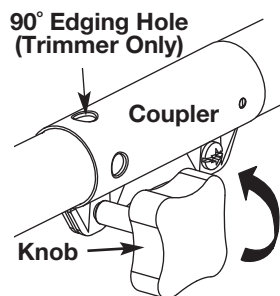
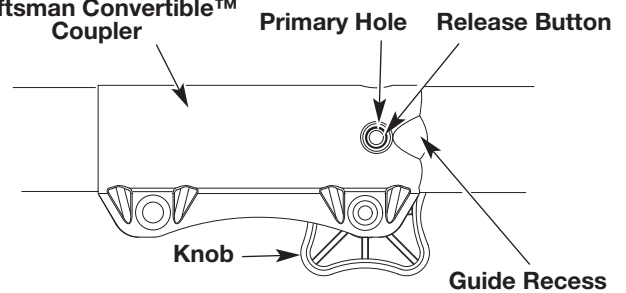

Fig. 16
Fig. 17
2. Turn the knob counterclockwise to loosen coupler (Fig. 16).
3. Push in the release button (Fig. 17) and twist the shaft 90° until the release button snaps into the 90° hole (Fig. 16).
CAUTION: Before operating this unit, be sure that the release button is fully snapped into the primary hole (Fig. 16), and that the knob (Fig. 17) is securely tightened.
2. Turn the knob counterclockwise to loosen the coupler (Fig. 16).
3. While firmly holding the attachment, push it straight into the coupler until the release button (Fig. 17) snaps into the primary hole (Fig. 17). The primary hole is on the opposite side of the coupler from the knob (Fig. 17). Align the release button with the Guide Recess (Fig. 17) to help installation.
3. Press and hold the release button (Fig. 17).